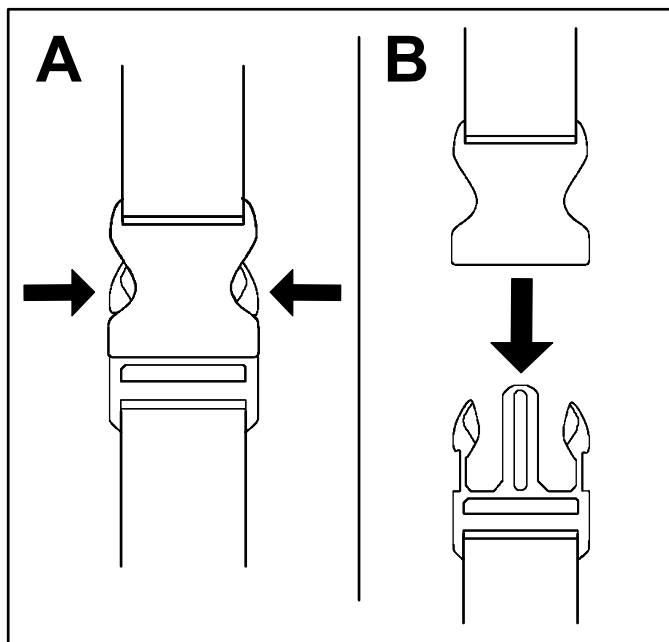

Figure 7
1. Press in on the sides of the buckle (A of Figure 7).
2. Allow the buckle to disconnect (B of Figure 7).